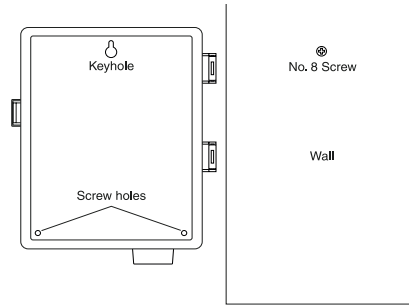

Figure 18: Mounting the Timer
- Screw a No. 8 screw through each of the two holes at the bottom of the timer box into the wall [See Figure 18].